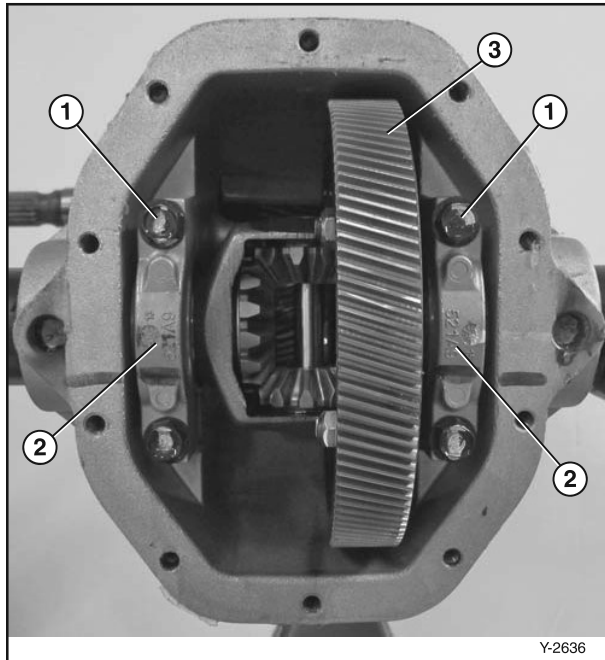

Figure 6-40
6. Remove the bolts (Figure 6-40, (1)) and the bearing caps (Figure 6-40, (2)).
7. Remove the differential assembly with the ring gear (Figure 6-40, (3)).